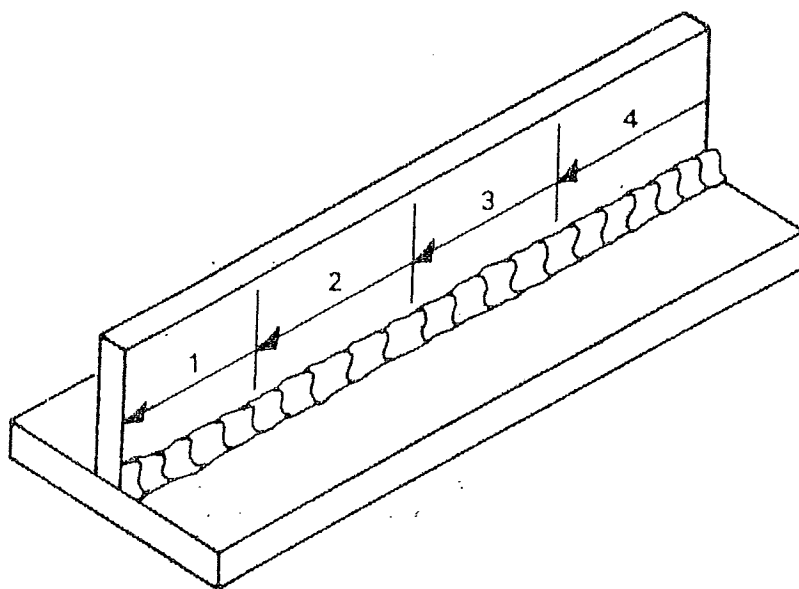

Figure 14.13-3 BACK-STEP
**14.13.3.7** Continuous lines of welding using manual or semi-automatic processes should be backstepped, (see Figure 14.13-3) or use controlled wandering sequence (see Figure 14.13-4).